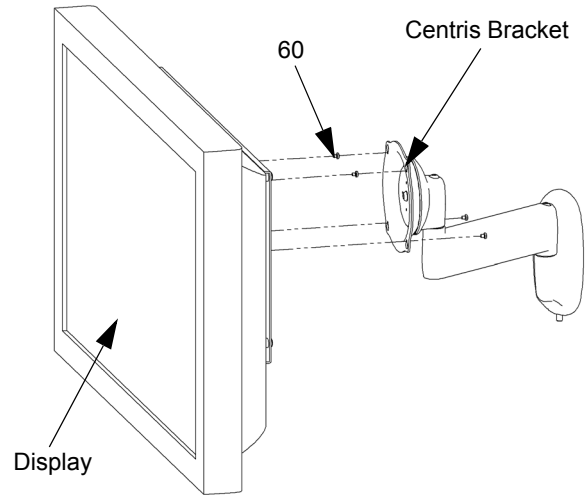

Figure 4: Flush Mount Centris Bracket to Display
1. Install two M4 x 12mm screws (60) into the top mounting holes (not shown) on the display .
2. Align the mounting holes on the Centris bracket with the screws installed on the display. Hang the display on the Centris bracket. (see figure 4)
3. Install two remaining M4 x 12mm screws (60) into the bottom mounting holes on the display.